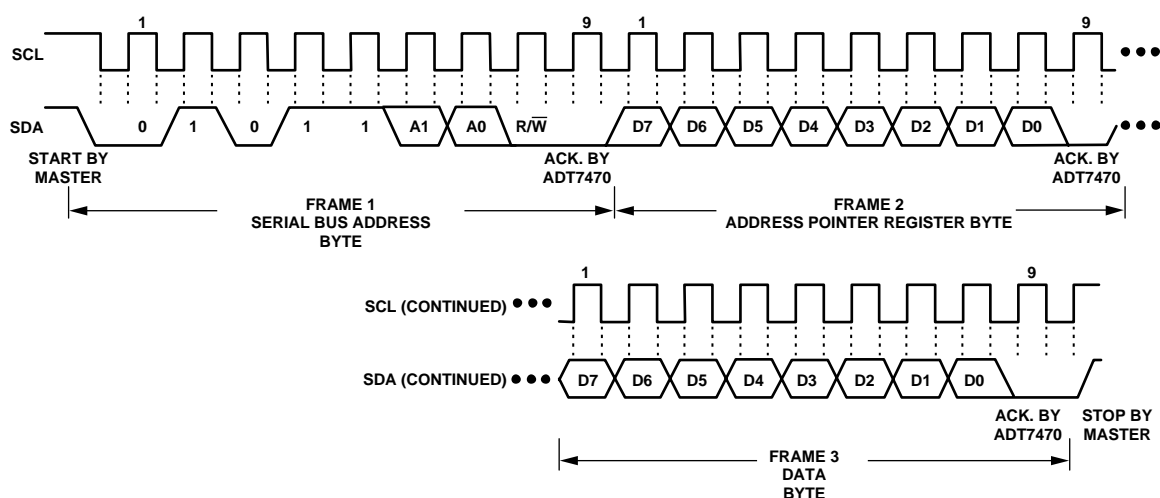
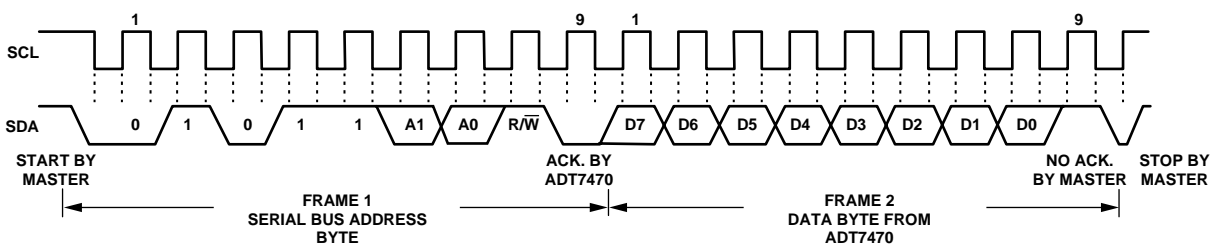

Figure 7. Writing a Register Address to the Address Pointer Register, then Writing Data to the Selected Register
Figure 9. Reading Data from a Previously Selected Register
This is illustrated in Figure 7. The device address is sent over the bus followed by  $R/\overline{W}$  set to 0. This is followed by two data bytes.
A read operation is then performed consisting of the serial bus address,  $R/\overline{W}$  bit set to 1, followed by the data byte read from the data register. This is shown in Figure 9.
- In Figure 7 to Figure 9, the serial bus address is shown as the default value 01011(A1)(A0), where A1 and A0 are set by the address select mode function previously defined.